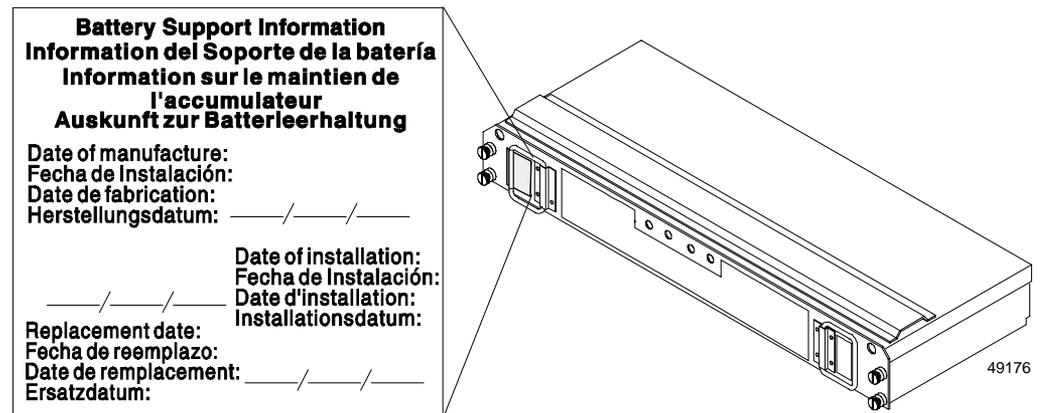

Figure 4-4 Recording the Battery Support Information
2. Unpack the battery canister. Save the packing material for shipping the used battery canister to a disposal facility. Record the following service date information on the front label of the new battery canister (Figure 4-4):